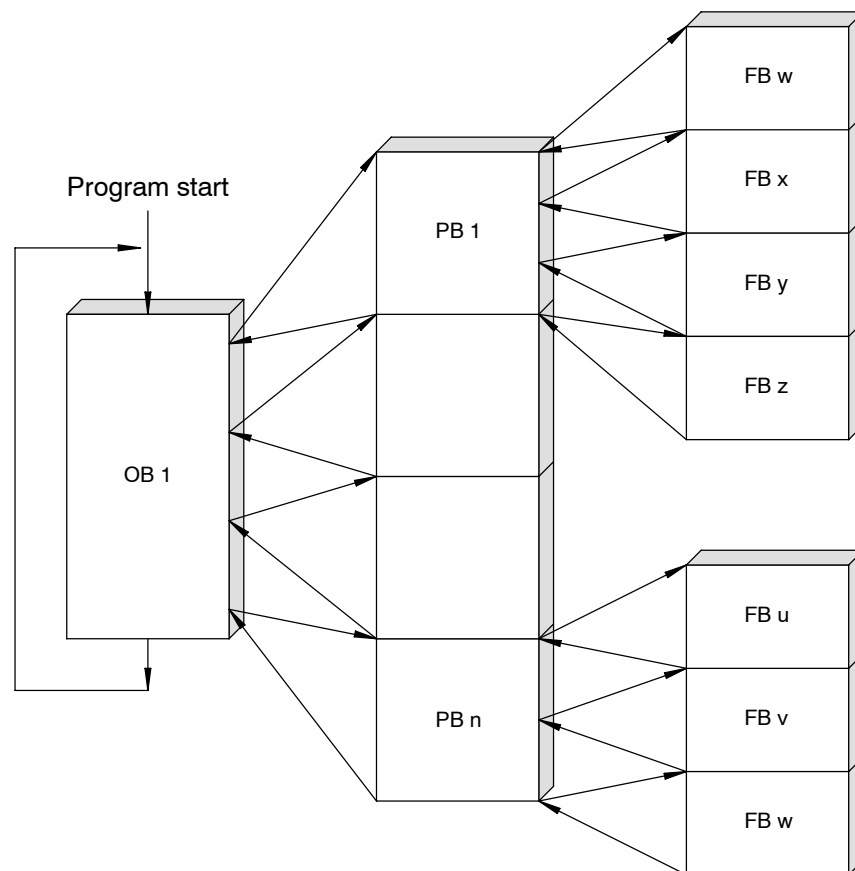

Figure 5 Basic Structure of a Dolog AKF Program
A Dolog AKF program consists of a succession of program blocks (PB) in its basic structure. These include a sequence of logic operations (selectively programmable in instruction lists, ladder diagrams or function block diagrams) and calling function blocks (FB). The user therefore has access to standard function blocks and can generate own function blocks as well. The program blocks are called by the organization block (OB) (cf. Figure 5). The hierarchical arrangement of organization, program and function blocks simplifies the structured programming.